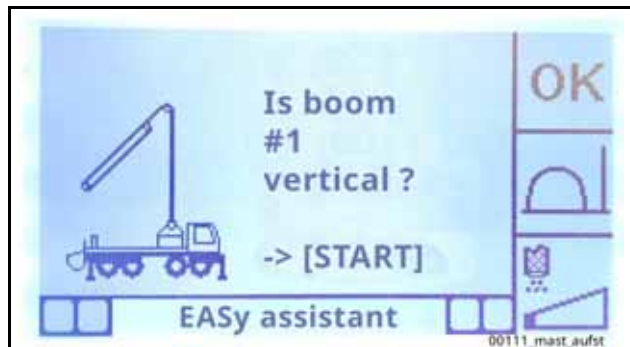

Fig. 441
- Confirm that you have placed boom 1 in the vertical position (**Fig. 441**).